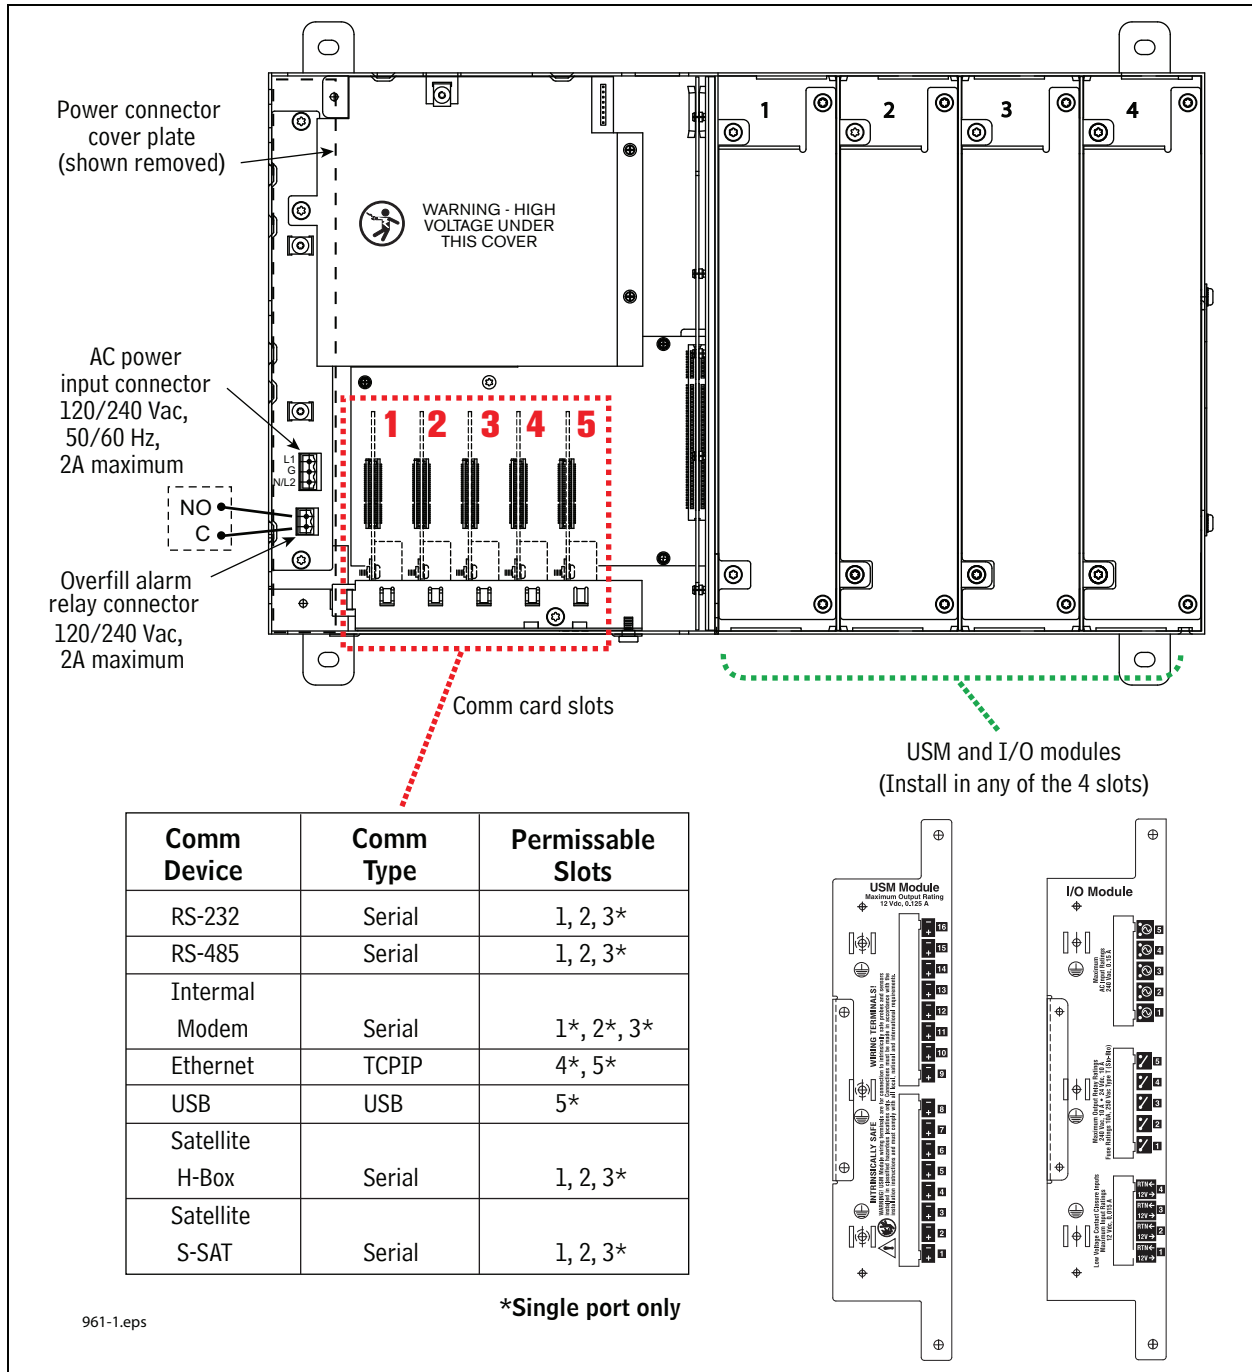
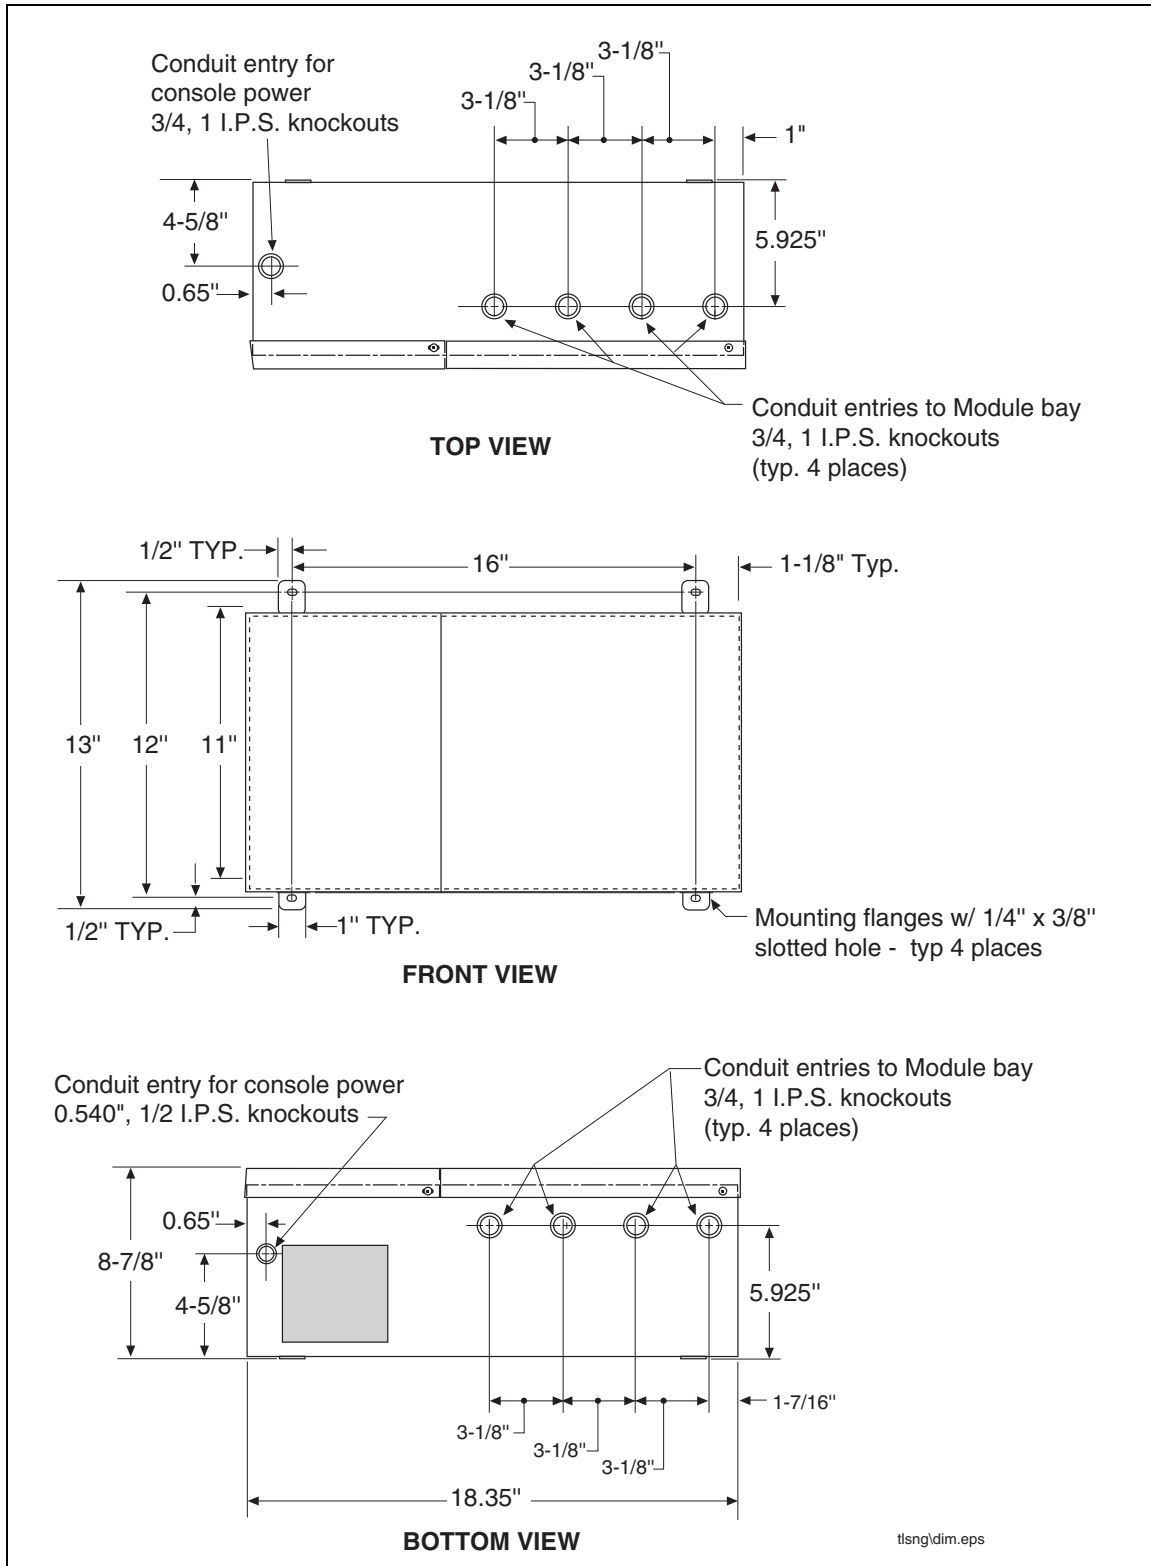

Figure 1. TLS-450 Console - Plug-in Module Compartments
Figure 2. TLS-450 Console Dimensions and Designated Conduit Knockouts
The TLS-450 doesn't have any set slots for USM (probe/sensor) and I/O (relays, pump control, etc.) modules so you can use any of the four slots to accommodate existing intrinsically safe (USM) wiring or non-intrinsically safe (I/O) wiring (see Figure 1). The key is that there is only one knockout in the top of the console and one in the bottom for each of the 4 slots (see Figure 2). Since the I/O module and the USM module can be installed in any of these 4 slots, install them where it makes the most sense for conduit connections. Remember, unless you're going to use that top knockout, you need ALL intrinsically safe wiring to come through ONE conduit.
1. With the left of the console open, remove the two screws that attach the power connector cover plate (see Figure 1).